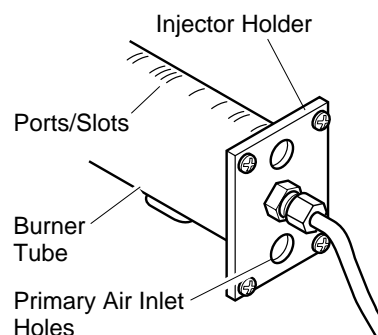

Figure 29 - Injector Holder On Outlet Burner Tube
2. Inspect burner, pilot, and primary air inlet holes on injector holder for dust and dirt (see Figure 29).